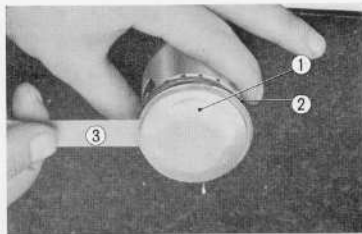

Fig. 3.53 Measuring the piston ring side clearance
5. Measure the piston ring side clearance with a thickness gauge. (Fig. 3.53)